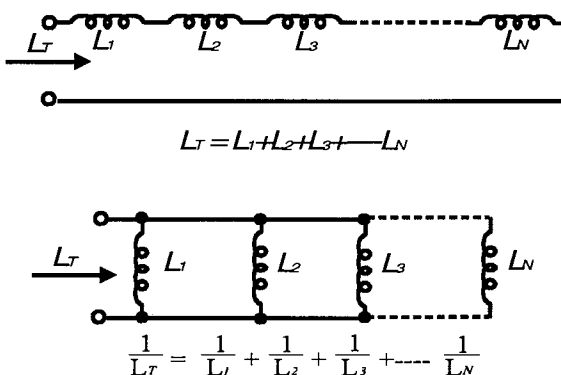

Figure 5-1, Series and Parallel Inductors
Remember, an inductor is simply a coil of wire. The ability of a coil to oppose a change in current is a measure of the inductance L of the coil. Inductance is measured in henries (H) although most inductors will be in micro henries (uH) 10^{-6} H. For inductors in series, the total inductance is found in the same manner as resistors in series, figure 5. Likewise, the total inductance of inductors in parallel is found in the same manner as resistors in parallel, Figure 5-1. The main idea to remember here is inductors added in *parallel* *reduce* the total inductance and inductors added in *series* *increase* the total inductance.